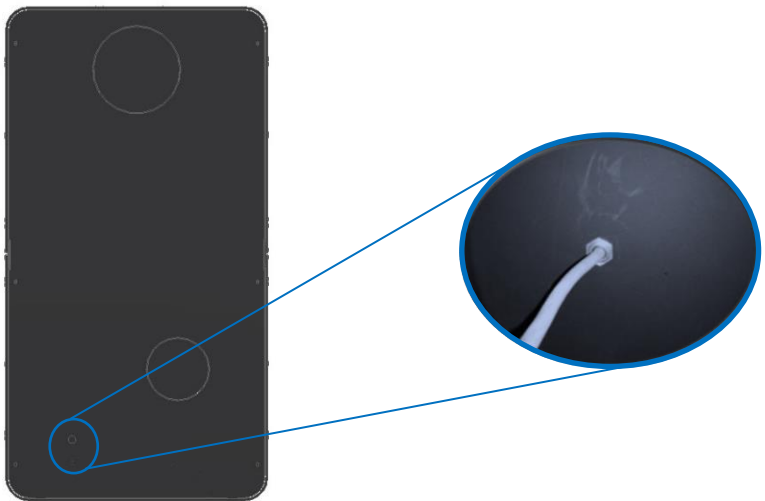

Figure 38 – Cable routing for the ventilation kit
* Pass the electric cable through the hole and tighten the wire passes (figure 38);